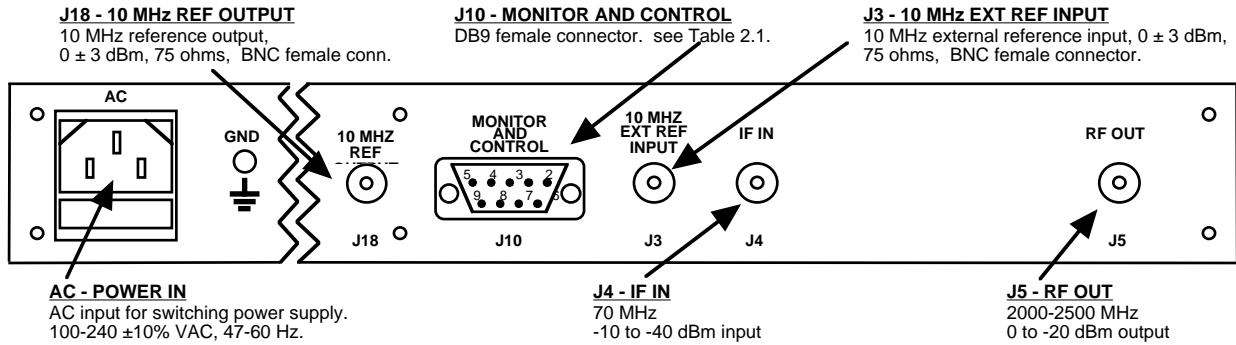

FIGURE 2.2 Rear Panel Inputs and Outputs
Figure 2.2 shows the input and output connectors on the rear panel.
1. Connect a -10 dBm to -40 dBm, 70MHz signal to IF IN, J4 (Figure 2.2)
Alarm indications appear on the LEDs (see figure 2.2).